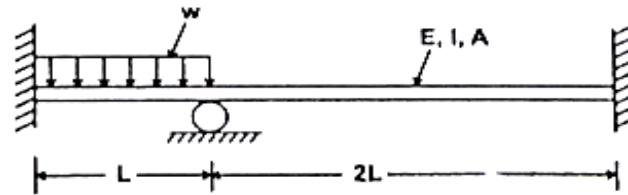

Fig. 1
- b) Compute the rotation at the simple support and reactions at the fixed supports for the two span beam as shown in Fig.1.